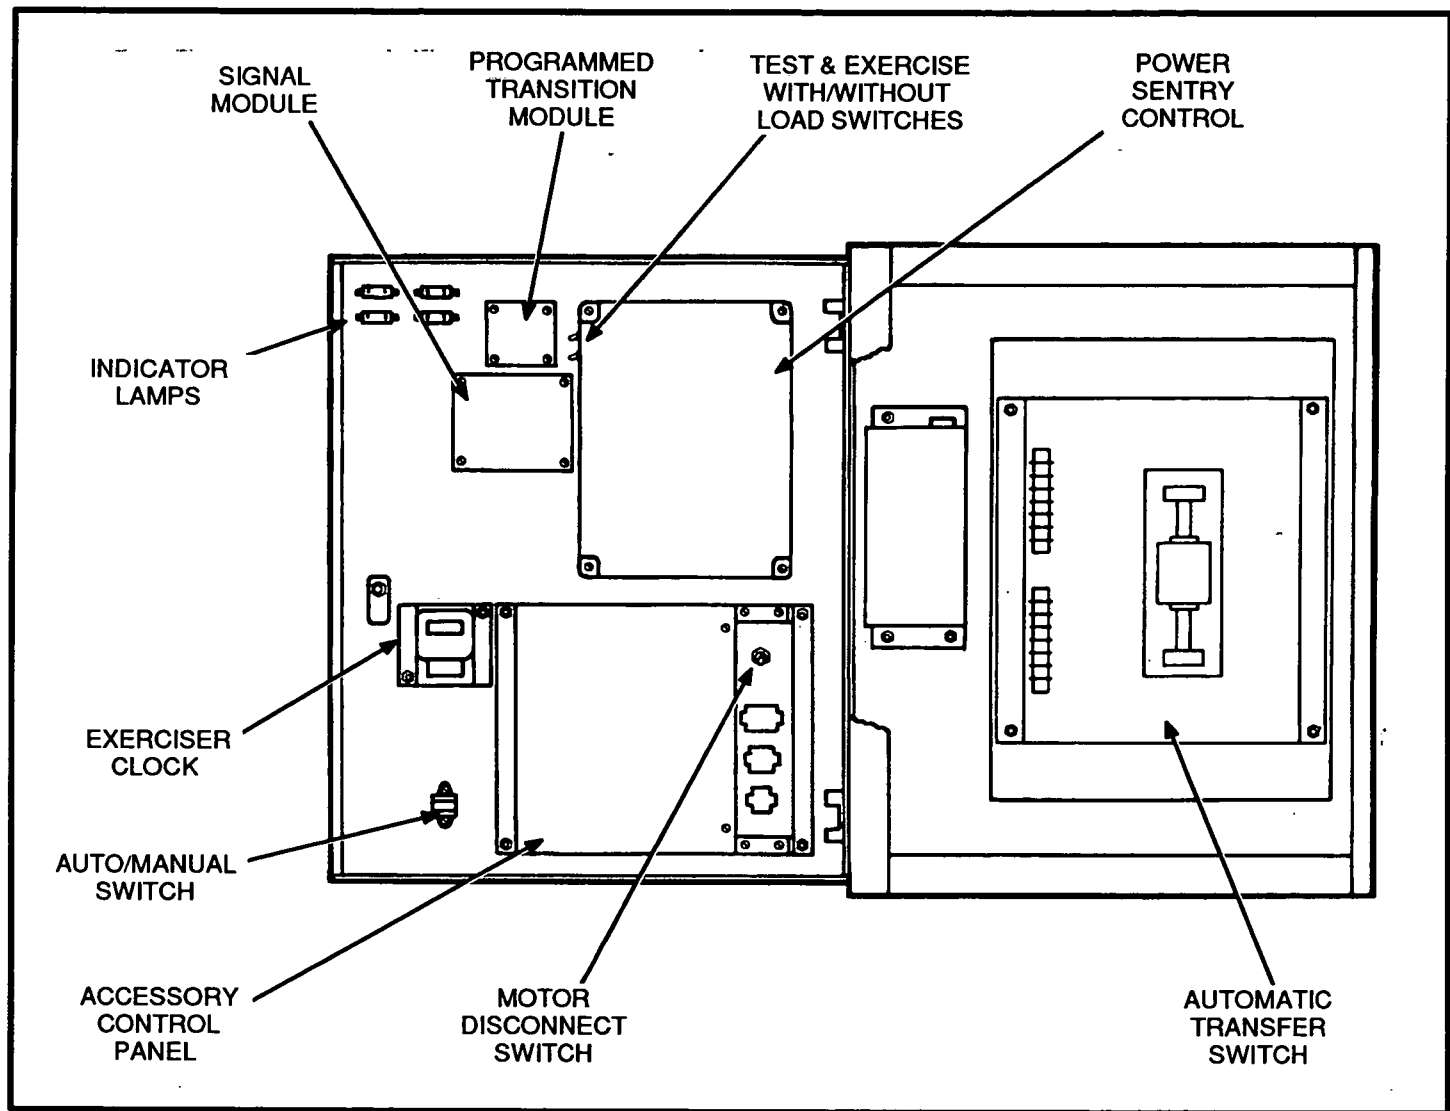

FIGURE 4-2. INTERIOR/COMPONENTS
The transfer switch (Figure 4-2) opens and closes the contacts that transfer the load between Normal and Emergency power. The transfer switch is mechanically interlocked to prevent simultaneous closing to both power sources. The main parts of the transfer switch discussed here are the contact assemblies, linear actuator, Motor Disconnect switch, and auxiliary contacts.
The most important component of the electronic control system is the Power Sentry control (Figure 4-2). The Power Sentry includes voltage sensing circuits, time delay circuits and control relays. There are also several adjustment potentiometers and indicator lamps on the Power Sentry. The adjustments must be performed only by qualified service personnel.
*Place the Motor Disconnect Switch (Figure 4-2) in the Off position when making adjustments. Return the switch to the Auto position after adjustments are completed.*